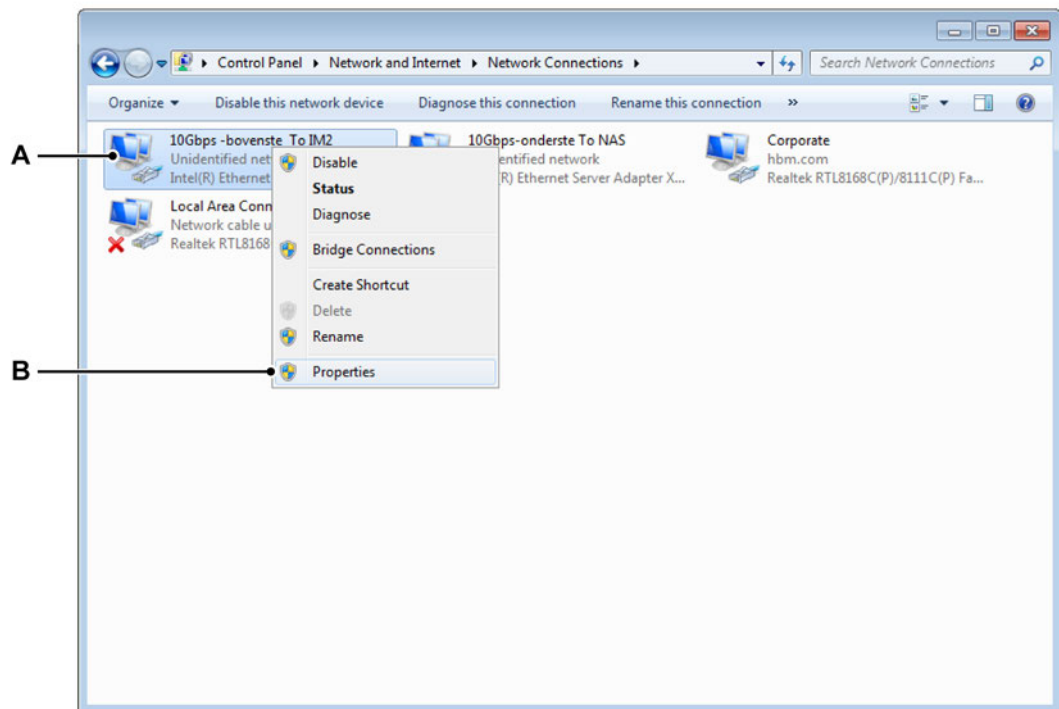

Figure K.3: Network Connections
- 3 The available adaptors in **Network Connections** should be shown as in the following Figure K.3.